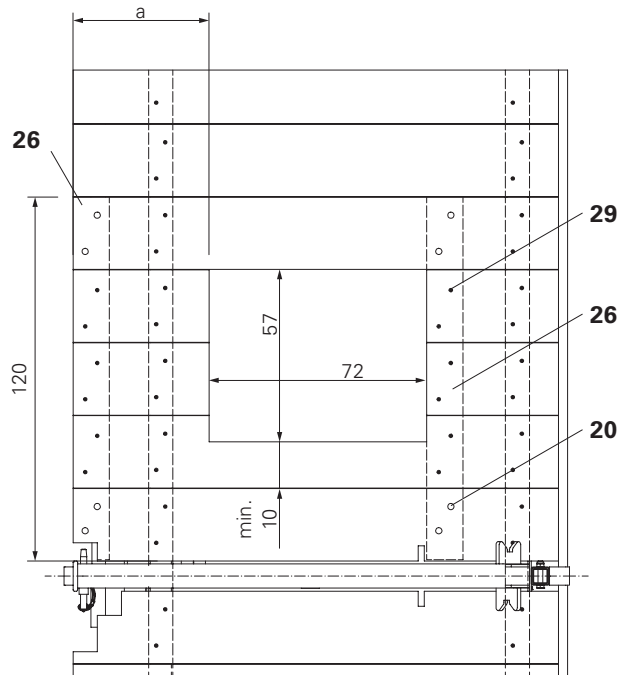
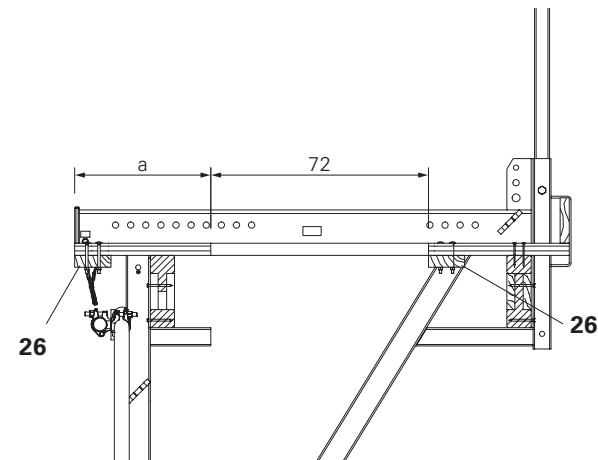

Fig. A2.02
Fig. A2.03
- Support the cut planks with timbers (26),  $L = 120$  cm, min. 120 x 40 mm, and secure with TSS-TORX 6 x 80 (29).
- Screw timbers (26) 2x each to the laterally-positioned end-to-end planking. F. H. Bolts DIN 603 M8 x 100 MU (20) with Washer ISO 7094 100 HV A8. (Fig. A2.02 + Fig. A2.03)